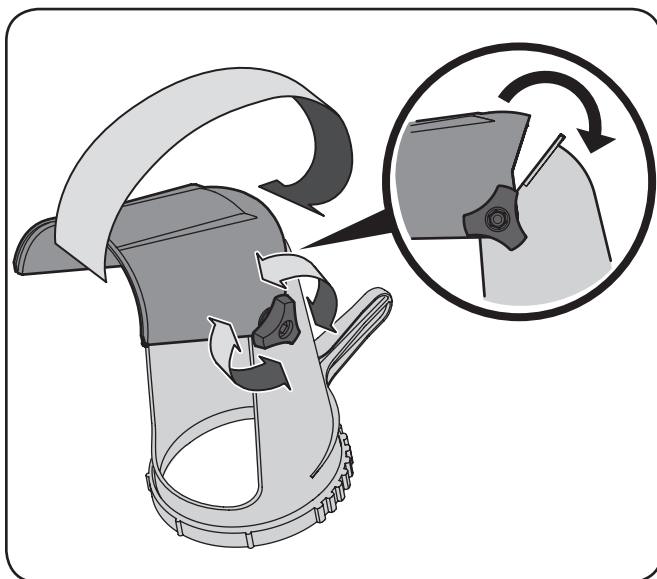

Figure 3-7
2. Remove the wing knob, bell washer and bolt from the left side of the chute. See Figure 3-7.